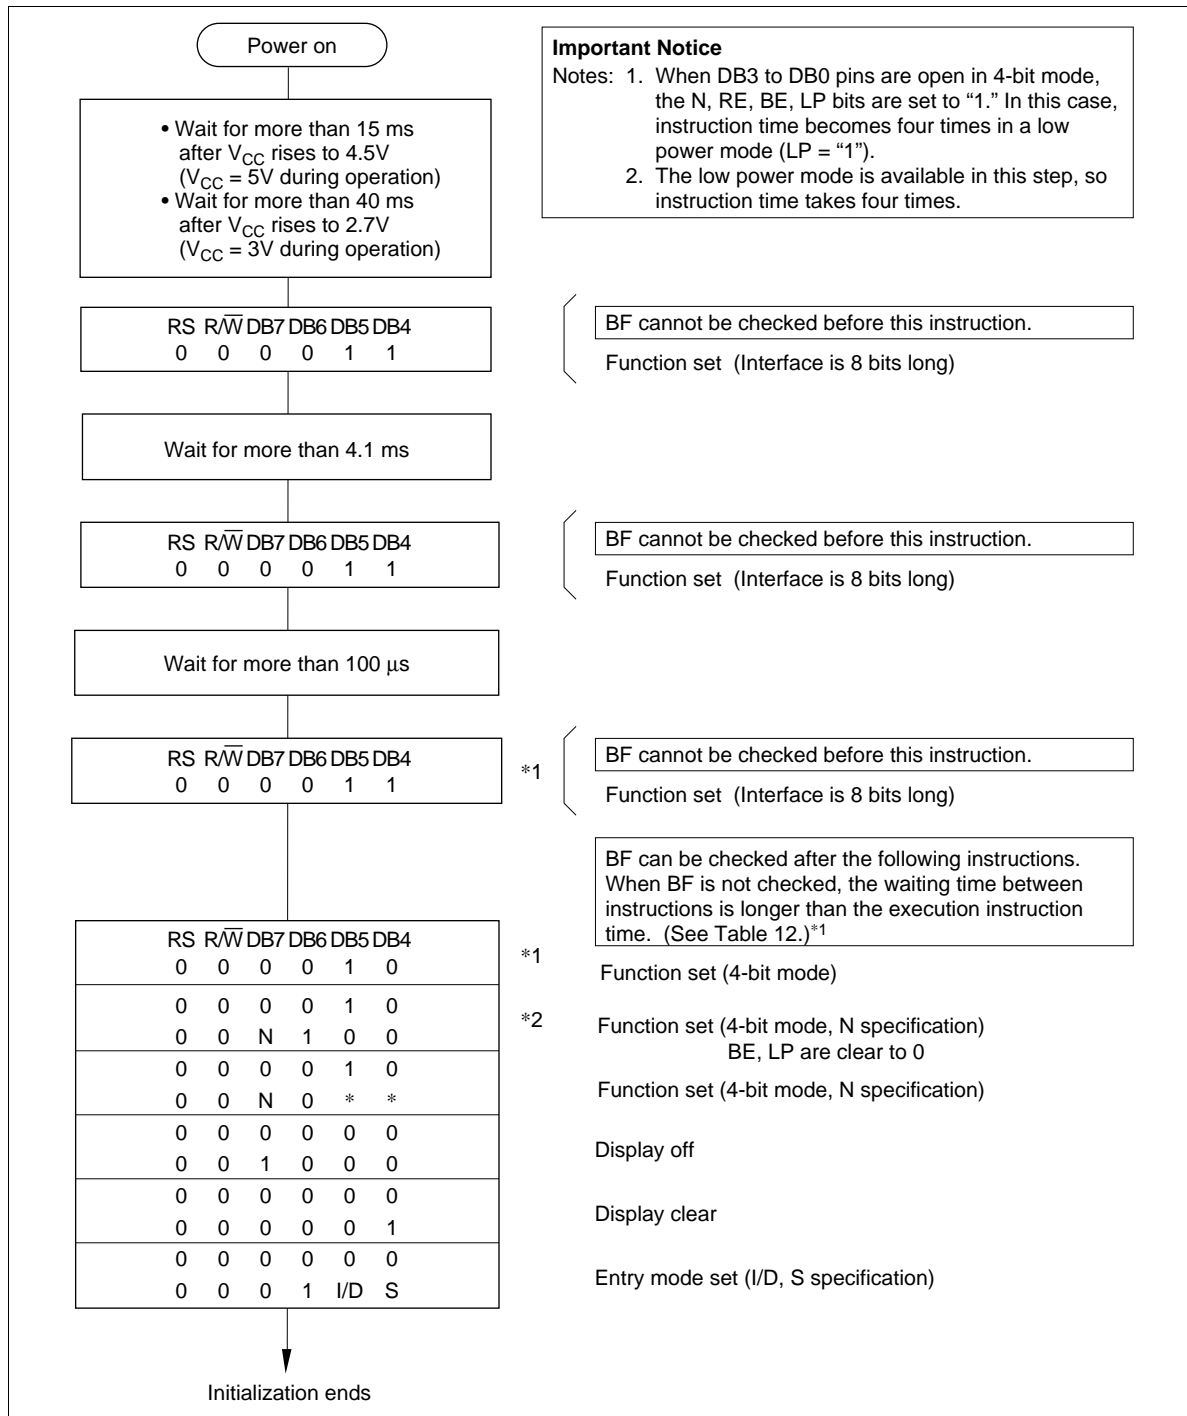

Figure 30 Initializing Flow of 4-Bit Interface
- Initializing when a length of interface is 4-bit system. (See Figure 30.)